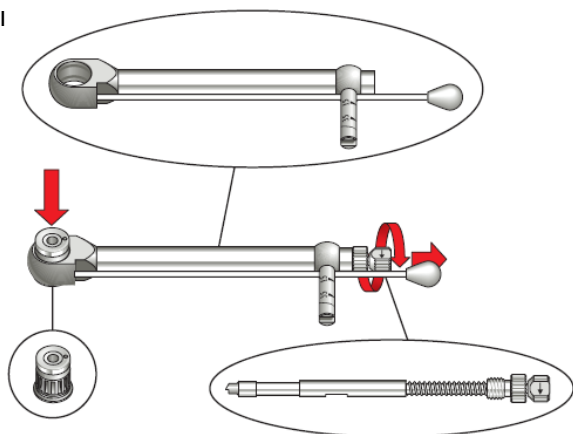

Figure 1: Disassembly of the Manual Torque Wrench
1. Disassemble the Manual Torque Wrenches prior to cleaning by removing the adapter and the rod from the wrench body as shown in Figure 1.